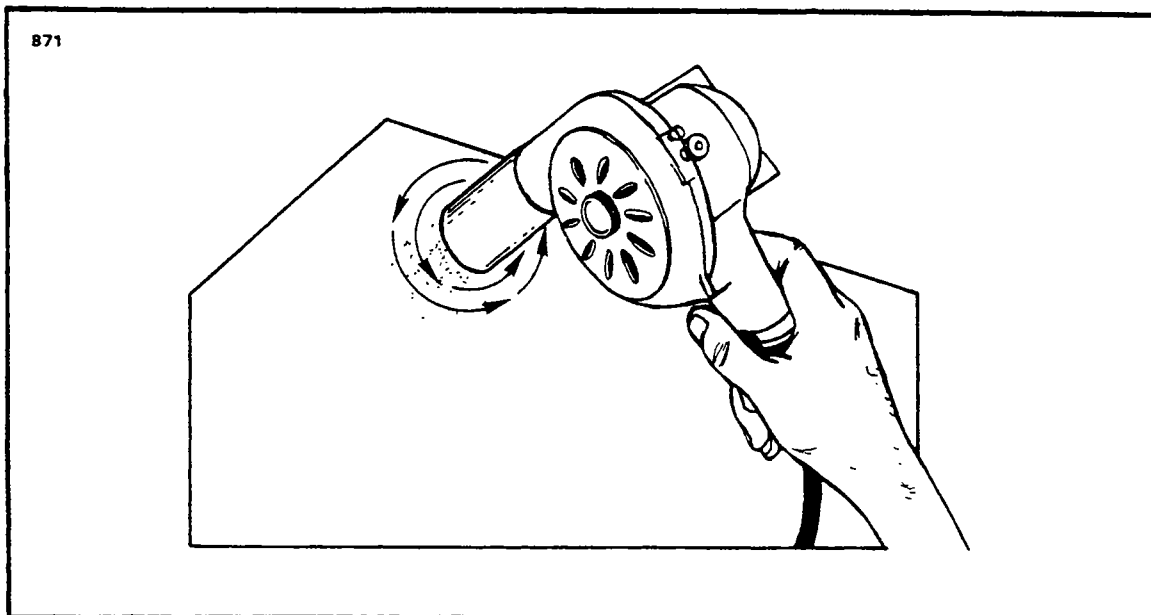

Figure 4-11. , Surface Scratches, Abrasions or Ground-in-Dirt
b. Surface Scratches, Abrasion or Ground-in-Dirt: (Refer to Figure 4-11.)